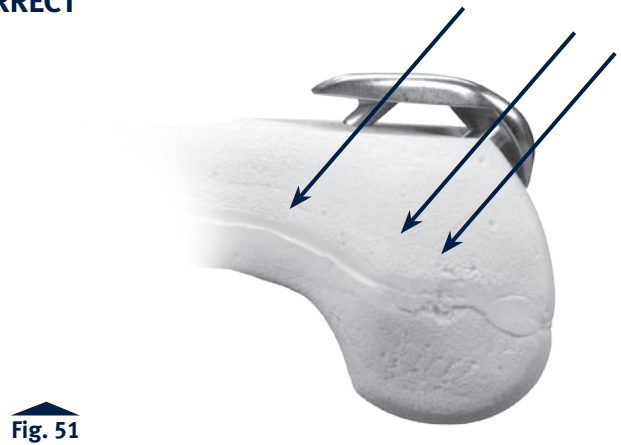

Fig. 51
- Insert the provisional onto the femur, taking care to properly align the pegs and tail with the holes (**Fig. 51**). The pegs should engage into peg holes at the same time.
- The impaction force should be delivered in the direction of the pegs' axis (**Figs. 51,52, and 53**).